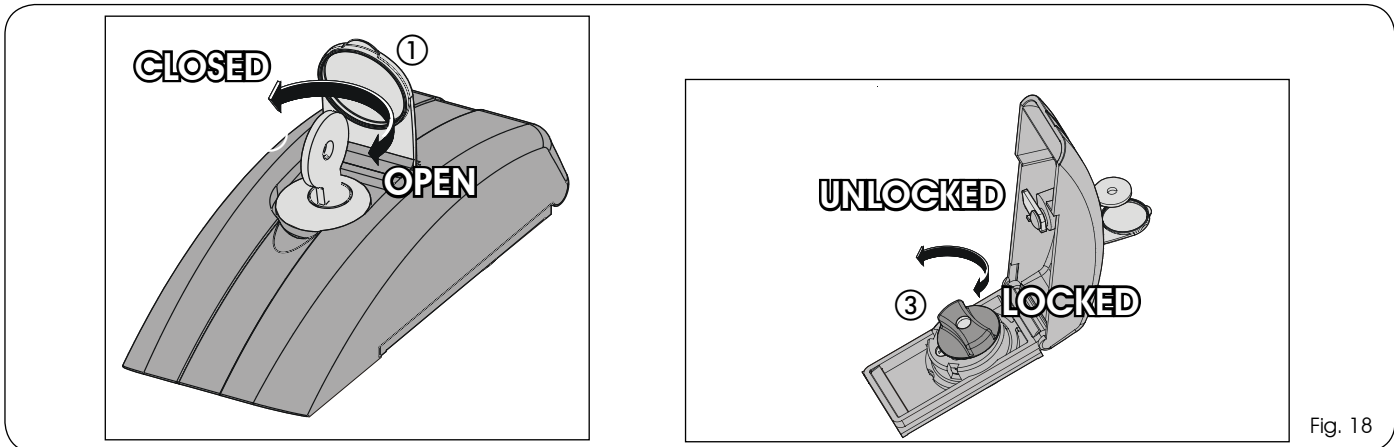

Fig. 18
- 1) Lift the protection lid (Fig. 18, re. ①) and insert the key in the lock (Fig. 18, ref. ②).
- 2) Turn the key 90° clockwise to open the cover and lift it.
- 3) Turn the release knob (Fig. 18, re. ③) anticlockwise until it stops.**